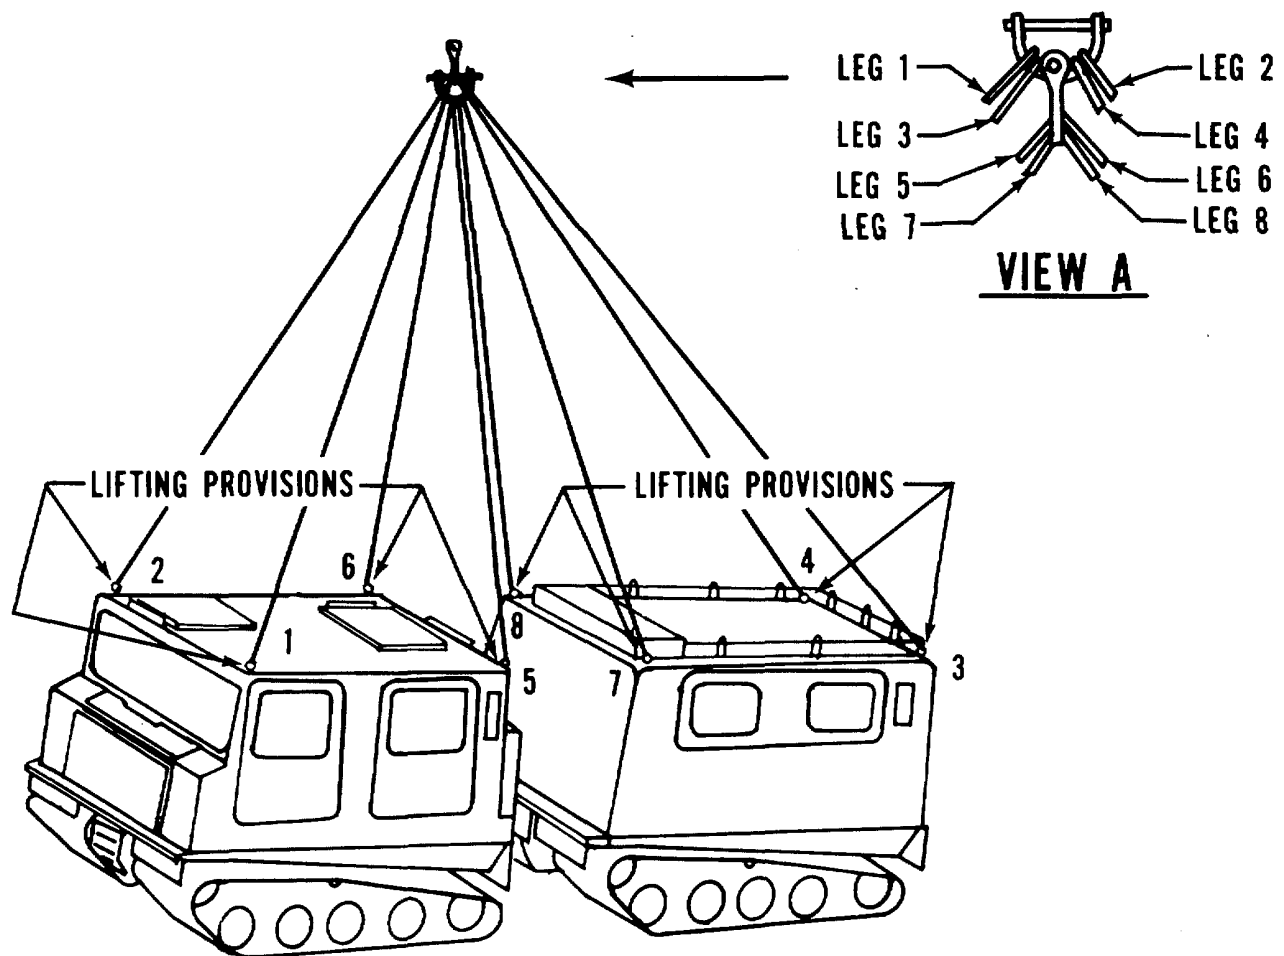

Figure 4-1. Sling diagram for transport of the M973 by helicopter
- (1) Assemble the two sling sets as shown in figure 4-1. Note the sling leg numbering sequence.
- (2) Loop the chain end of sling legs 5 and 6 through the aft lifting provisions of the front car of the carrier and insert link 8 in the grabhooks.
- (3) Loop the chain end of sling legs 7 and 8 through the forward lifting provisions of the rear car of the carrier and insert link 11 in the grabhooks.
- (4) Loop the chain end of sling legs 1 and 2 through the forward lifting provisions of the front car. Attach an additional chain to the No. 1 link on the chain legs with the connector link. The chain leg must be looped through the lifting provision prior to attaching the additional chain. Insert link 14 of the additional chain in the grabhook.
- (5) Loop the chain end of sling legs 3 and 4 through the aft lifting provisions of the rear car. Attach an additional chain the same as for sling legs 1 and 2. Insert link 18 of the additional chain leg in the grabhook.
- (6) Tape the loose ends of the chain legs.
- (7) If the carrier has to be driven after being pre- pared for helicopter lift, secure the slings and clevis